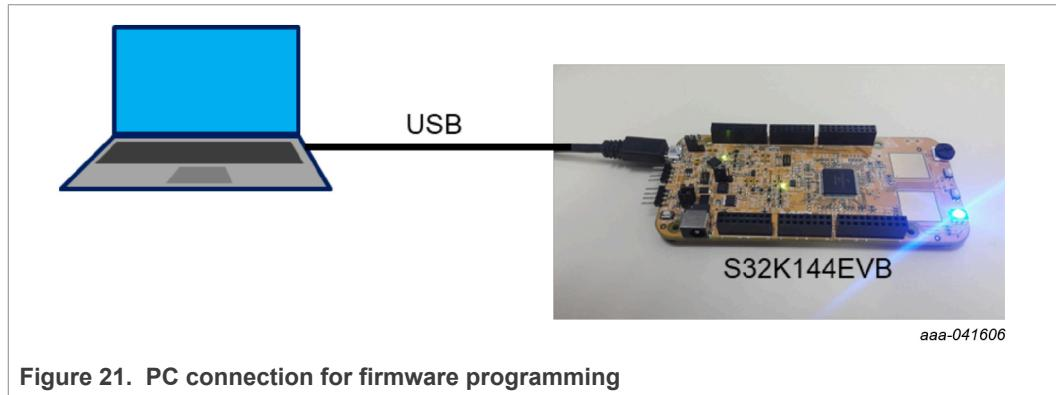

Figure 21. PC connection for firmware programming
2. Connect the board to the PC with a USB cable (Figure 21)